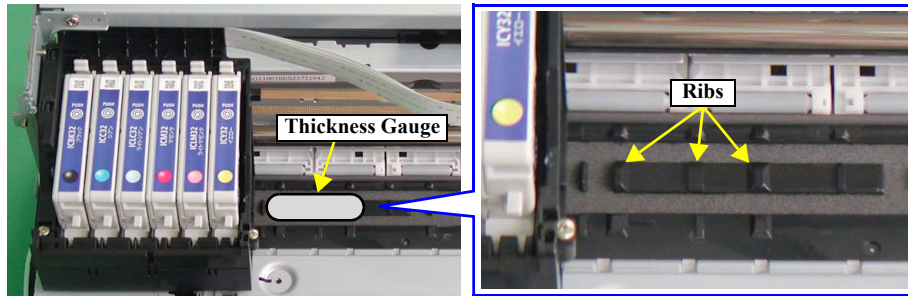

Figure 3-8. Setting Thickness Gauge
10. Move the Carriage Unit back to the left edge of the printer, then set the Thickness Gauge (1.46mm) on the ribs (x3) of the Front Paper Guide in the same way as the Figure 3-8.